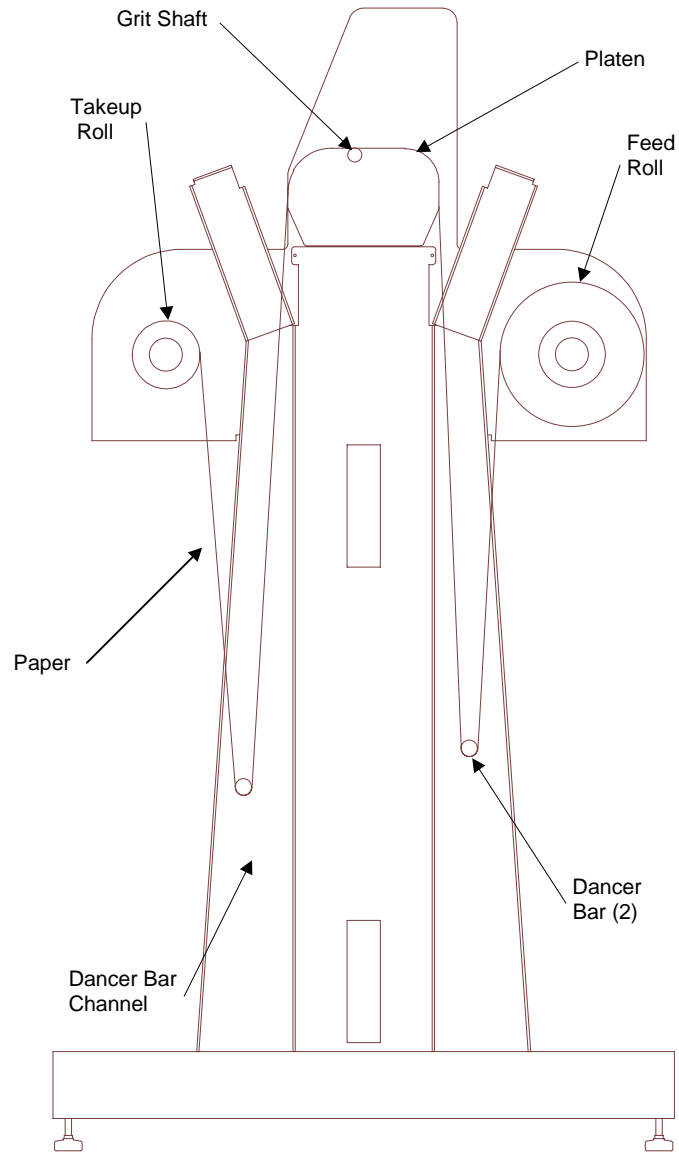

Figure 18. The Paper Path
22. Check the paper path against Figure 18 for proper installation.